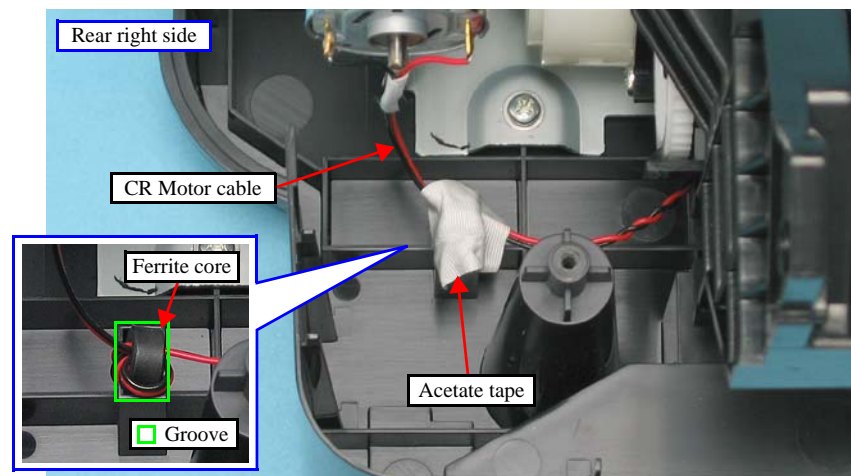

Figure 4-59. Removing the Printer Mechanism (1)
- When installing the Printer Mechanism, put the ferrite core of the CR Motor Cable in the groove of the Lower Housing, and secure it with acetate tape. (See Figure 4-59.)